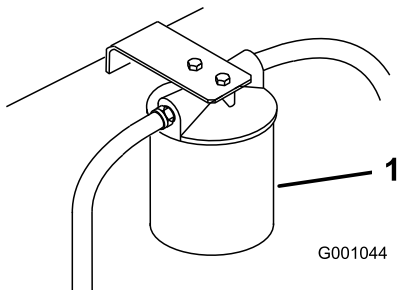

Figure 80
3. Place drain pan under filter, remove the old filter and wipe the filter adapter gasket surface clean (Figure 80).